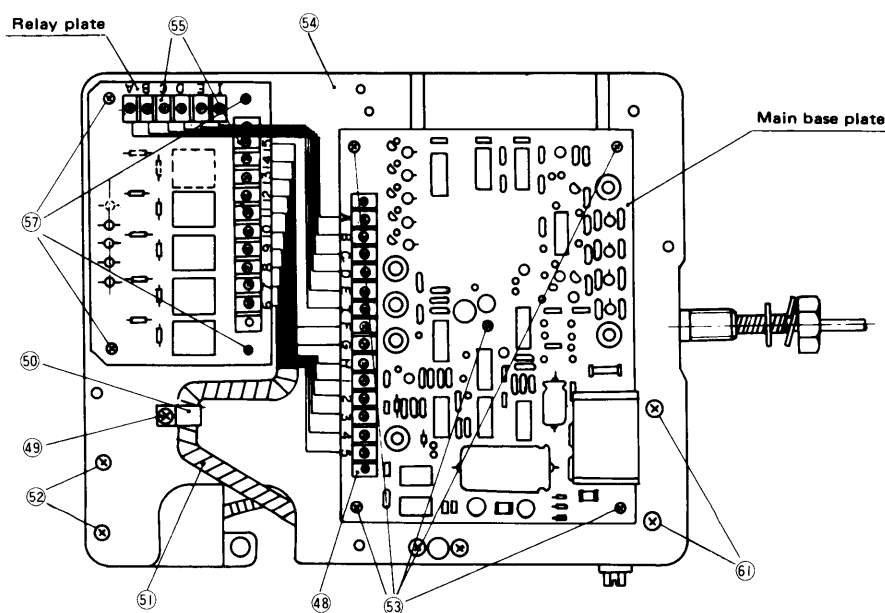

Fig. 4 Internal device assembly
- (2) Remove the internal device assembly. Loosen four hexagonal nuts (11) and screws (46) and remove the internal device assembly from the main body (1) and turn it back. Then it looks as shown in Fig. 4.
**(2) Measuring resistance of the volume setter**
- Adjust the volume setter as shown in Fig. 4 in accordance with Article D,(2).
- Remove the lead wires (3 pcs, F. G. H.) which are laid from the volume setter from the terminal (48) (14P) on the terminal strip of the main base plate and measure resistance between G and H of the lead wires.
**(3) Replacing points**
- From the state of the volume setter as shown in Fig. 4, loosen screw (49), remove power source plug (50), remove the spiral tube (51) from the wires. Then remove two screw bolts (52) and the volume setter can be removed from the base (54).
- After replacing the volume setter with a new one, inspect and adjust it in accordance with Articles c. (1). ① and c. (1). ②
② Main base plate
(1) Replacing standards
- In case the volume setter shows the phenomena as stated in Article D,(2). ① Replacing standards and yet it has no trouble or the same phenomena take place after replacing the volume setter.
(2) Replacing points
- Adjust the volume setter as shown in Fig. 4 in accordance with Article D,(1).
- Remove the wires (14 pcs Nos A ~ H, 1 ~ 5) from the terminal strip (48) on the main base plate.
- Remove 5 screws (53) to remove the base (54) from the main base plate, so replace it with new one.
③ Relay base
- Adjust it as shown in Fig. 4 in accordance with Article D,(1).
- Remove the wires (14 pcs No. A ~ E, F ~ H, I, 1 ~ 5) from the terminal strip (55) on the relay base plate.
- Loosen four screws (57), and the relay base plate can be removed from the base (54). So replace the relay base plate with a new one.
- Take out the internal assembly as stated in Article D, (1) and turn it inside out, which is shown in Fig. 4.
- Loosen two screw bolts (61) to remove the feeler tube – element and replace it with new one.
- After replacement, inspect and adjust it in accordance with Article C. (2)